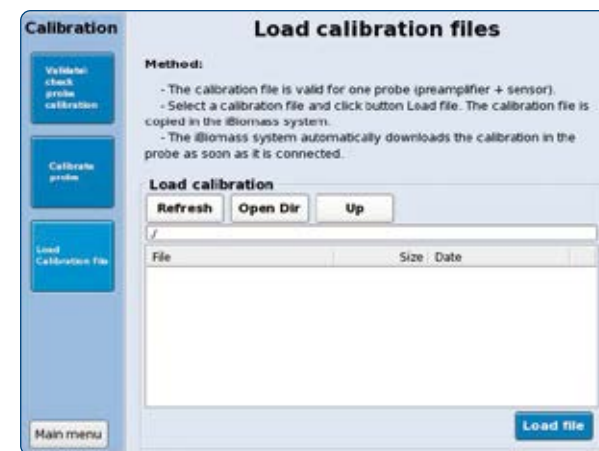

Figure 58: Upload of calibration files.
1. Go to the Main Menu and enter the Calibration Menu (Figure 13). Select Load Calibration Files (Figure 58).